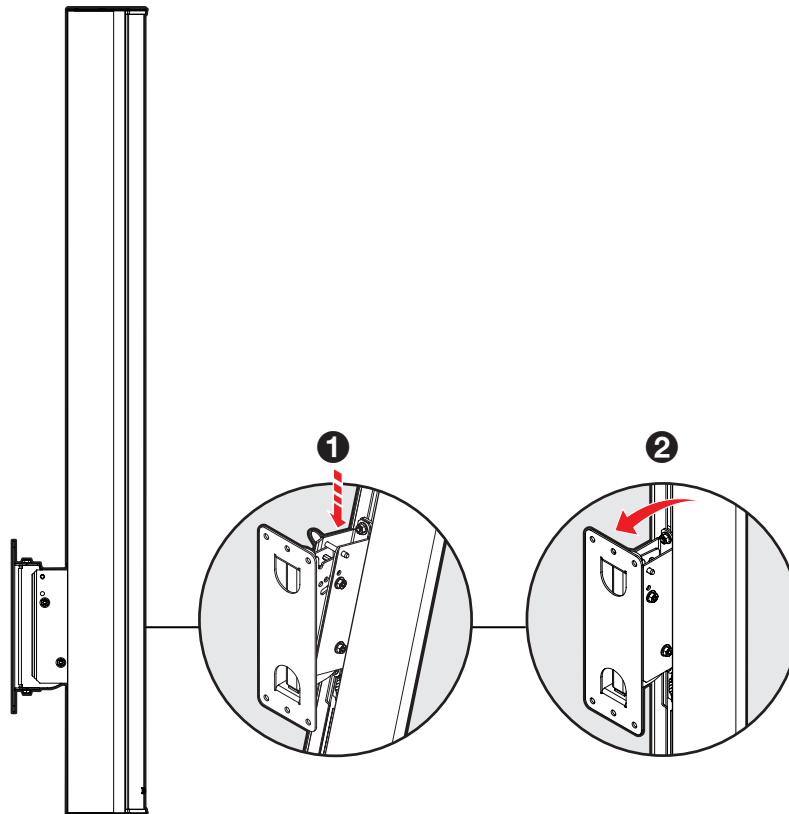

Figure 18. Attaching Speaker to Wall Mount
2. Attach speaker to Wall Bracket Assembly by lowering the Speaker Bracket and bottom Angle Set Screw onto the Wall Bracket Assembly mounting hooks (see figure 18, ①) and push speaker towards the wall until the Security Pin locks into the Security Pin Hook (②).